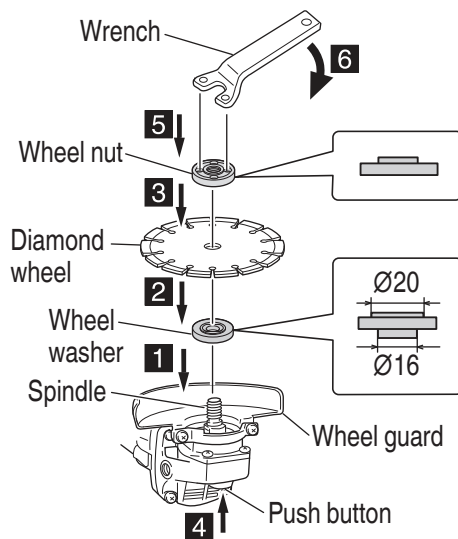

Fig. 8
## ASSEMBLING AND DISASSEMBLING THE DIAMOND WHEEL (Fig. 8)
#### 1. Assembling (Fig. 8)
- (1) Turn the disc grinder upsidedown so that the spindle is facing upward.
- (2) On the spindle, place the  $\varnothing 16$  wheel washer towards the spindle and then attach the diamond cutter.
- (3) From the top of the diamond cutter, place the depressed side of the wheel nut towards the diamond cutter and attach to the spindle.
- (4) Screw the wheel nut onto the spindle.
- (5) While pushing the push button with one hand, lock the spindle by turning the depressed center wheel slowly with the other hand. Tighten the wheel nut by using the supplied wrench as shown in Fig. 8. Use a dry type diamond cutter.